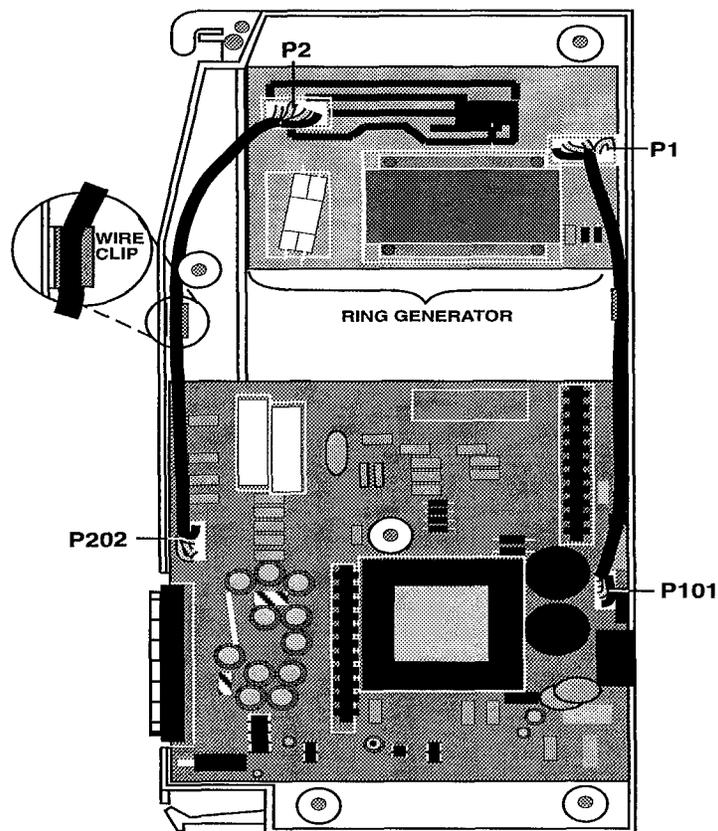

Figure 3-3. Installing a Ring Generator in the Power Supply Module
A ring generator provides the ringing capability for basic telephones and T/R devices. Figure 3-3 shows the proper placement of the ring generator in the power supply module.
9. Connect one end of the cable with the 3-pin connectors to the header labeled P101 on the power supply circuit board. Connect the other end of the cable to the header labeled P1 on the ring generator (see Figure 3-3).
10. Connect one end of the 4-pin cable to the header labeled P202 on the power supply circuit board. Connect the other end of the cable to the header labeled P2 on the ring generator (see Figure 3-3).
11. Use the clips provided with the ring generator to attach the cables to the inside edge of the plastic housing (see Figure 3-3). Make sure the cables do not lie across the circuit boards.